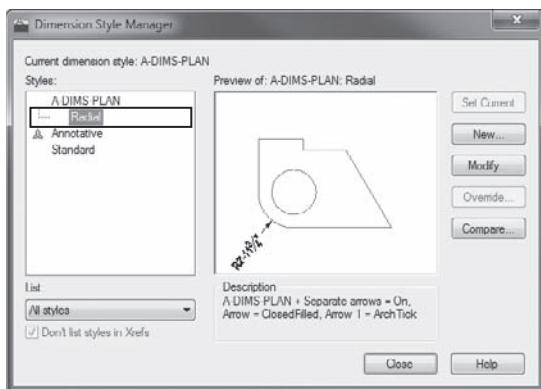

FIGURE 12.37 The Radial child style shown as a node in the Dimension Style Manager
- In the Dimension Style Manager dialog box, notice the Styles list; as shown in Figure 12.37, the current dimension style now has a child style for Radial dimensions indented below it.